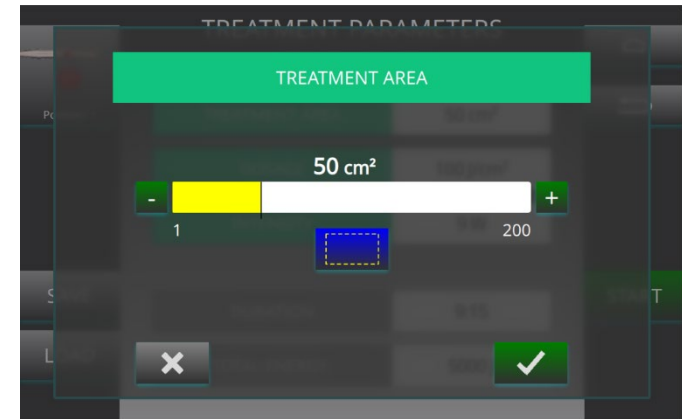

fig4
2. For the **TREATMENT AREA** (cm²) parameter, increase or decrease the value using the + or - buttons or by scrolling the cursor to the right or left until the desired value is reached (figure 4). It is possible to vary the TREATMENT AREA parameter between 1 and 200.